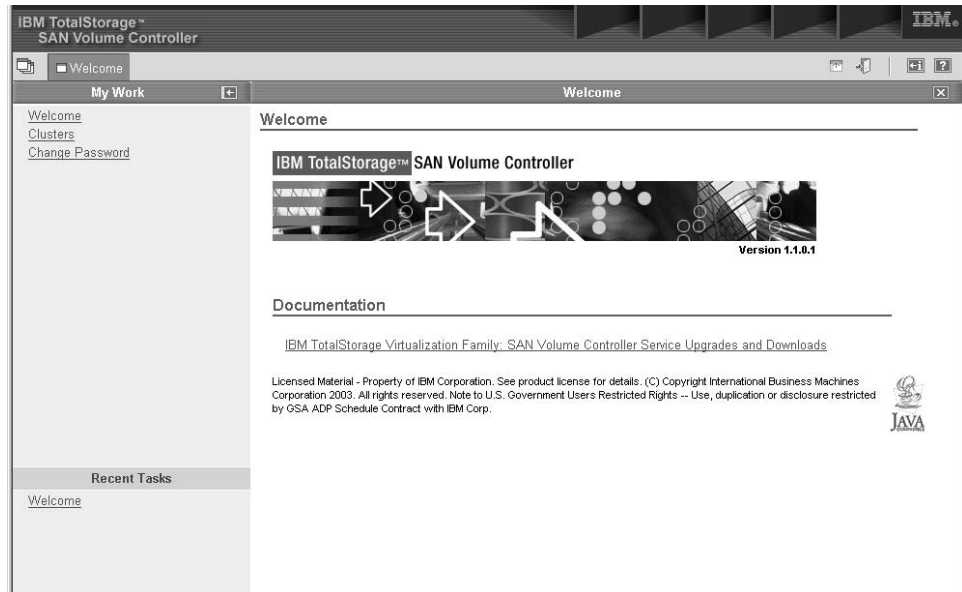

Figure 20. SAN Volume Controller Console Welcome panel
2. Enter the SAN Volume Controller Console user name and password provided by the customer; the following Welcome panel is displayed. See Figure 20 on page 5.